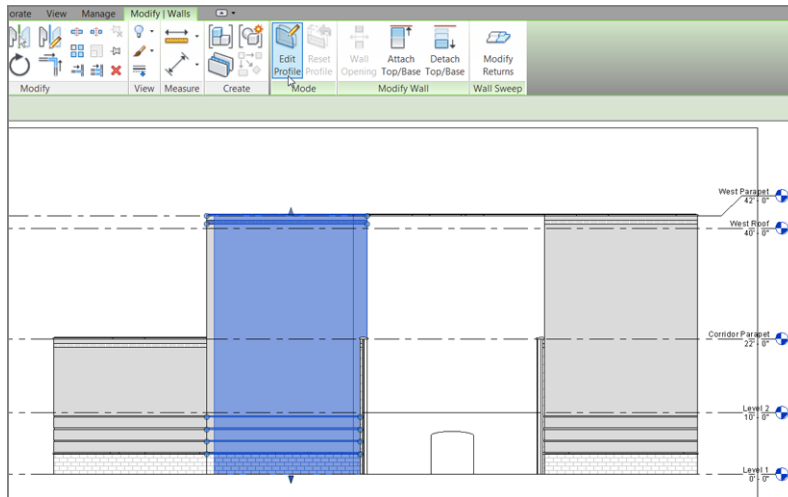

FIGURE 3.42: Selecting the wall to be modified, and clicking Edit Profile
2. In this section, select the east wall of the west wing, as shown in Figure 3.42.